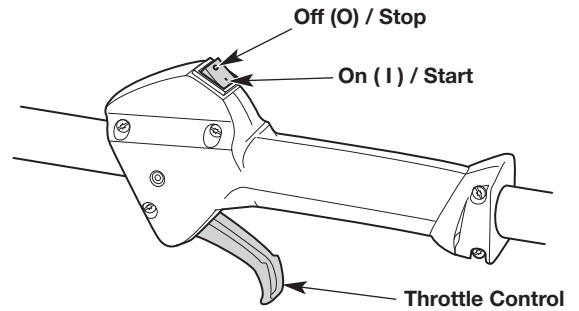
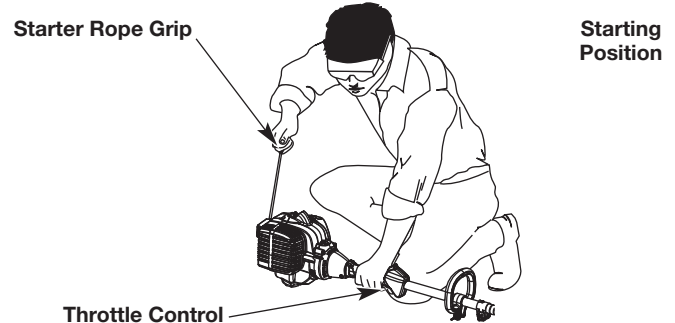

Fig. 8
Fig. 10
**WARNING:** Avoid accidentally starting the unit. To avoid serious injury, the operator and the unit must be in a stable position when pulling the starter rope (Fig. 10).
**NOTE:** There is no need to turn the unit on. The On/Off switch is in the ON (1) position at all times (Fig. 8).
5. Crouch in the starting position (Fig. 10).
6. Squeeze the throttle control (Fig. 8) and pull the starter rope with a controlled and steady motion **5 times** (Fig. 10).
2. Press and hold the On/Off switch in the OFF (O) position until the engine comes to a complete stop (Fig. 8).